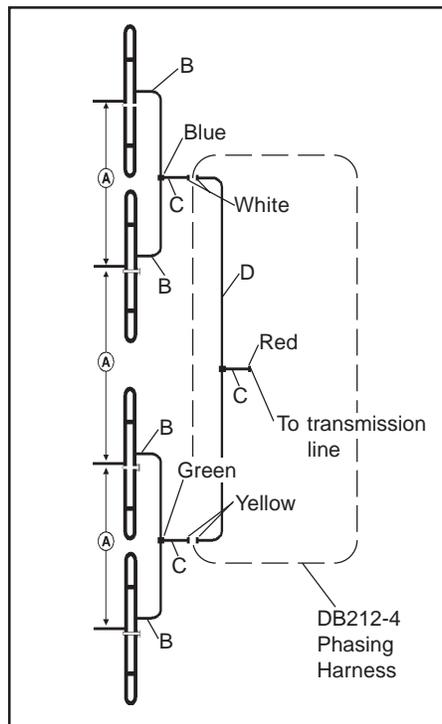

Figure 9 - DB212-4
Installing the DB212-4 (refer to Figure 9):
5. Connect the antenna feed cable (see Figure 9) from Dipole 2 to the "Tee" connection on the phasing harness attached to Dipole 1. Make the connections snug but do not apply heavy force with pliers.
8. Using the DB212-4 phasing harness, connect the two completed DB212-2 units together (see Figure 9). Be sure to match the color codes. Make all connections snug but do not apply heavy force with pliers. This should leave the phasing harness transformer (color coded red) open for connection to the station transmission line.